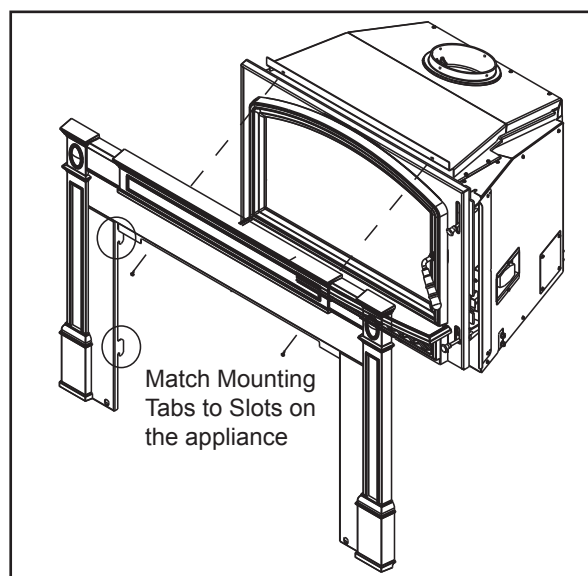

Figure 43.4
11. Slide surround and trim over the top of the insert into place matching the mounting tabs on the metal sides with the slots on the insert. **Figure 43.4.**
12. Align the 2 screws in the top metal surround piece to the 2 alignment holes on the appliance top. Secure in place. **Figure 43.4.**